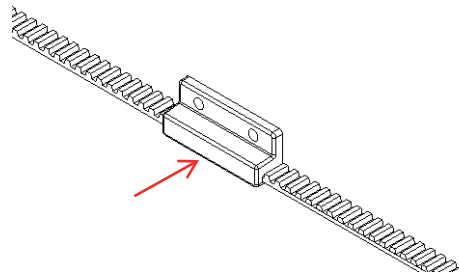

Figure 21: Insert the two ends of the belt into the bottom bracket.
3. Keep two ends of the belt as close as possible to each other and insert them into the bottom bracket (Figure 21).